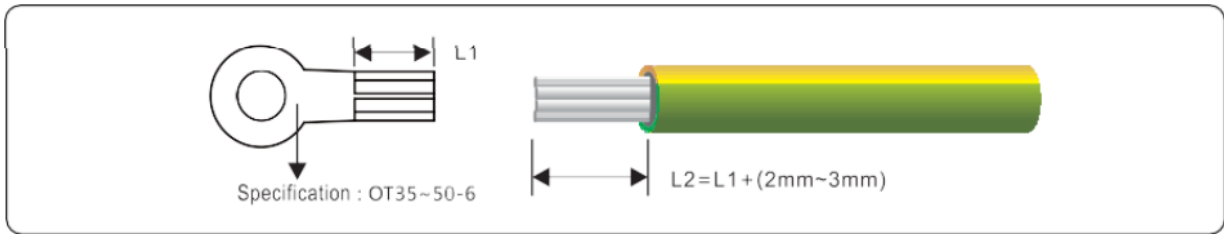

Figure 5.1 Stripped length (unit: mm)
Step 1 Remove an appropriate length of the insulation layer from the PGND cable using a wire Stripper; the length is a little bit longer than that of OT terminal’s crimping end by 2mm~3mm, as shown in Figure 5.1.